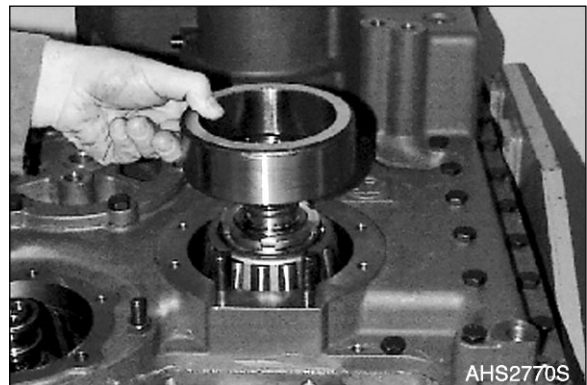
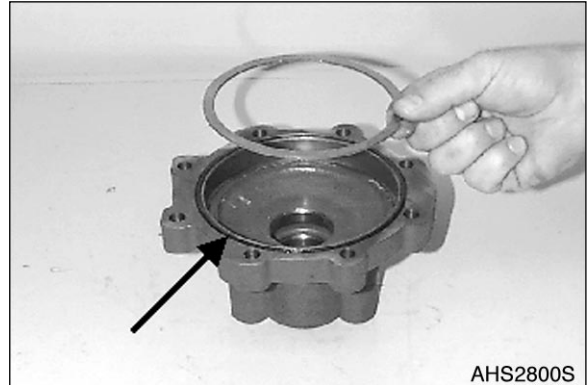

Figure 329
Figure 332
26. Adjust bearing preload of Clutch KR/K2 = 0.20 - 0.25 mm (0.0079 - 0.0098 in) (Figure 329 - Figure 332).